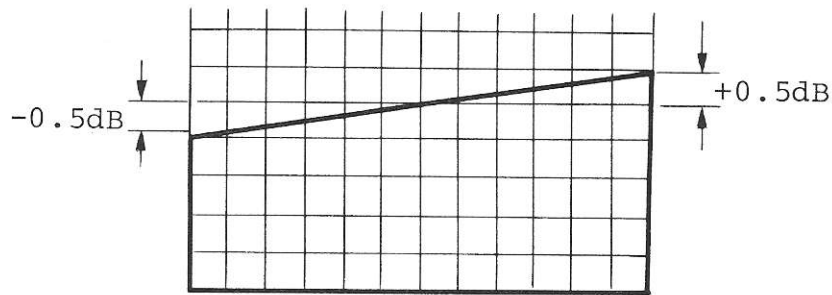

Fig. 5-3 Sweep output flatness check.
2. With both signal generators disconnected, the trace display should be as shown in Fig. 5-3. The deviation in flatness should be within -0.5 and +0.5dB referred to the center amplitude, at the three bands.